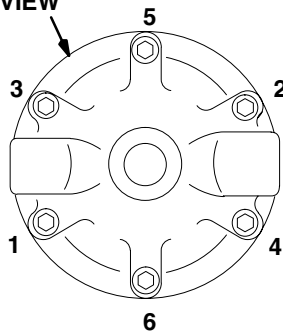

Fig. 5
5. Remove the swivel union (23) and spring (40) from the regulator body.
6. Remove the ball (20), valve seat (16), and gasket (15). See Fig. 5.
14. Torque the jam nut (13) onto the stem housing (18) to 21–35 ft-lb (28–47 N•m).
15. Install the valve stem (9), spring (3), gasket (21) and retaining screw (10) in the stem housing (18). Make sure the tab on the valve stem (9) fits into the slot on screw (10).
16. Torque the retaining screw (10) into the housing to 21–25 ft-lb (28–34 N•m).
17. Install the spring, adjusting screw (12) and cap on the housing (6). Tighten six capscrews (1) in the sequence shown in Fig. 5, **Bottom View**, and to the torque noted.
18. Install the gasket (15), valve seat (16), and ball (20) into the housing (6).
19. Screw the swivel union (23), with the o-ring (4) attached and the spring (40) in place, into the inlet. Torque to 23–27 ft-lb (31–36 N•m).